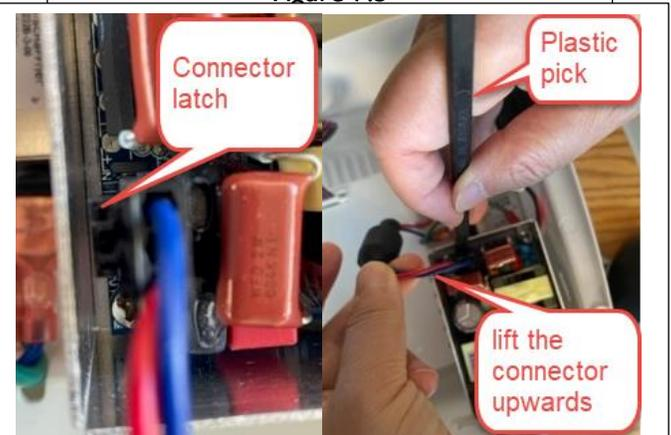

Figure 7.6
2. Disengage 2 connectors as shown in the **Figure 7.6**: using flat head screwdriver or plastic pick to push the connector latch and lifting the connector at the same time.